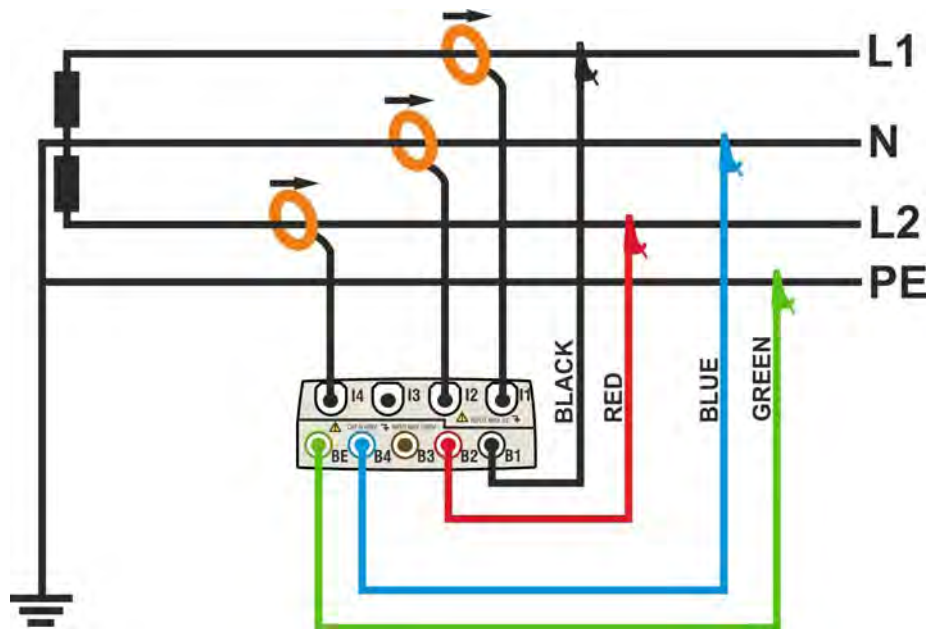

Fig. 146: Meter connection in a two phase 3-wire 1PH3W system – ENG type
2. Connect voltage test leads on Phases L1, L2, N and PE cables considering the colours as shown in Fig. 146
3. Connect the transducer current clamps on Phase L1, L2, N cables as shown in Fig. 146 respecting the clamp's arrow direction indicating the current standard sequence from generator to load. **On Real Time Values' section screens (selecting a 3 wire system preliminarily) always verify the positive value of Active Power and the power factor relative to load which should be normally inductive** before starting a recording. Reverse the clamp by 180 degrees on cables in case of negative readings.